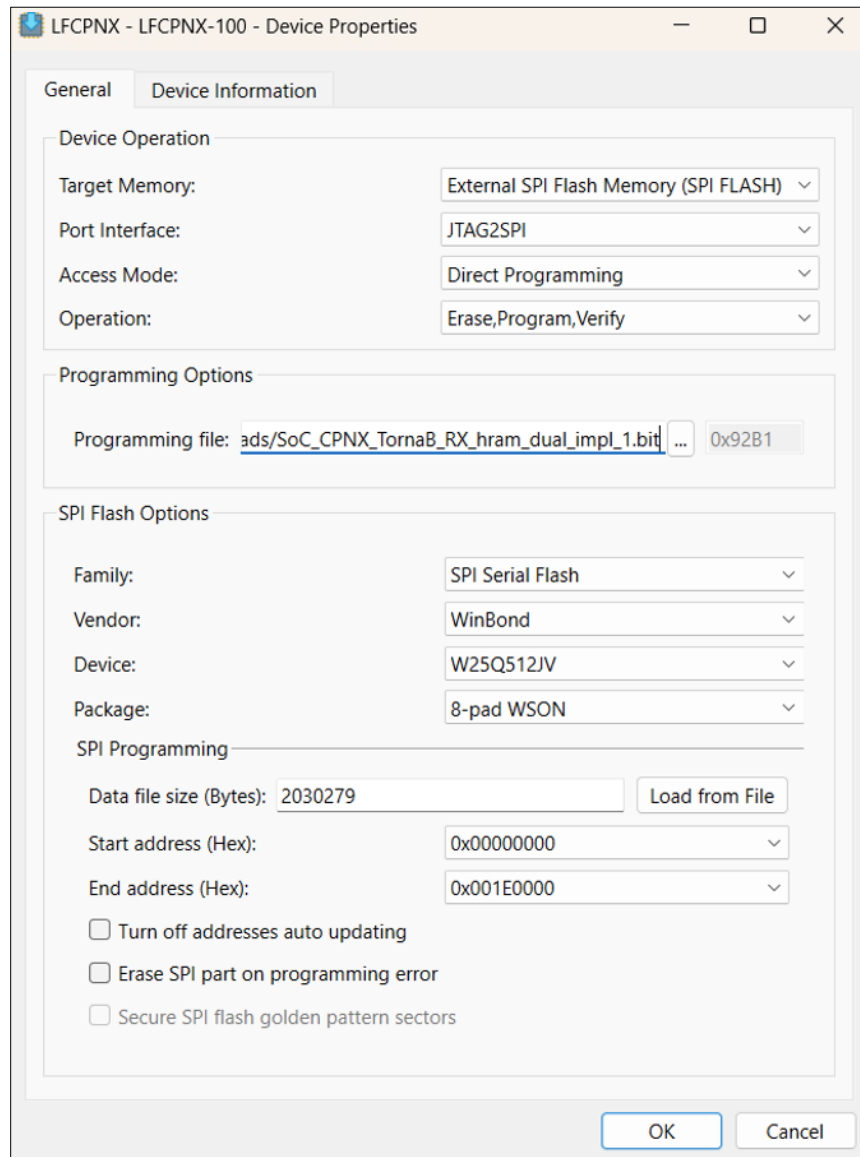

Figure 16.12. Radiant Programmer – Selecting Device Properties Options for CertusPro-NX Flashing
- c. For **SPI Flash Options**, select the Winbond **W25Q512JV** device (Figure 16.12).